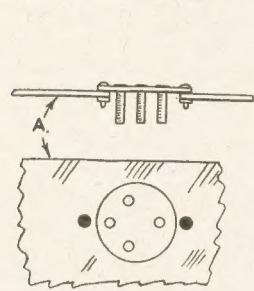

Fig. 1—Mounting components on baseboard and chassis
The latter type will normally be mounted on a chassis, as shown at (A) in Fig. 1. The valve will be inserted from the top and all wiring will be underneath. This arrangement proves more tidy and convenient in larger receivers.